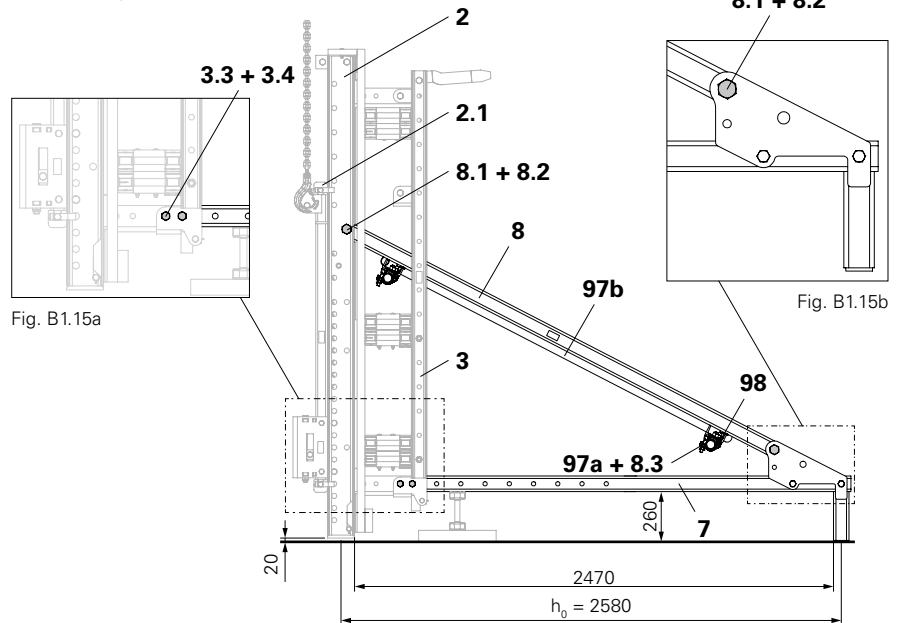

Fig. B1.15
8. Diagonally fix Scaffold Tubes Steel 48.3 x 3.2 (97b) to the horizontal scaffold tubes (97a) using Swivel Couplings DK 48/48 (98). (Fig. B1.15 or B1.16)